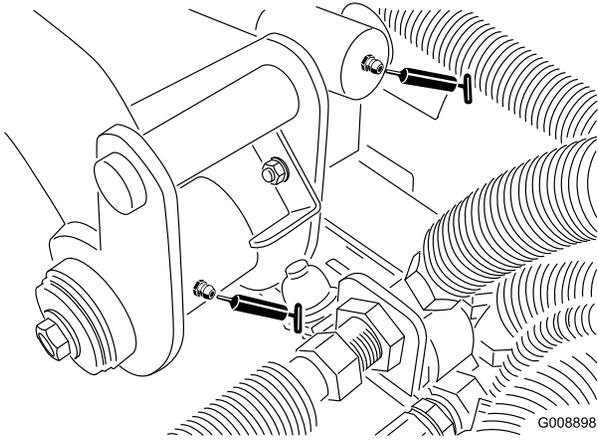

Figure 34
- Rear lift arm pivot and lift cylinder (2) (Figure 34)